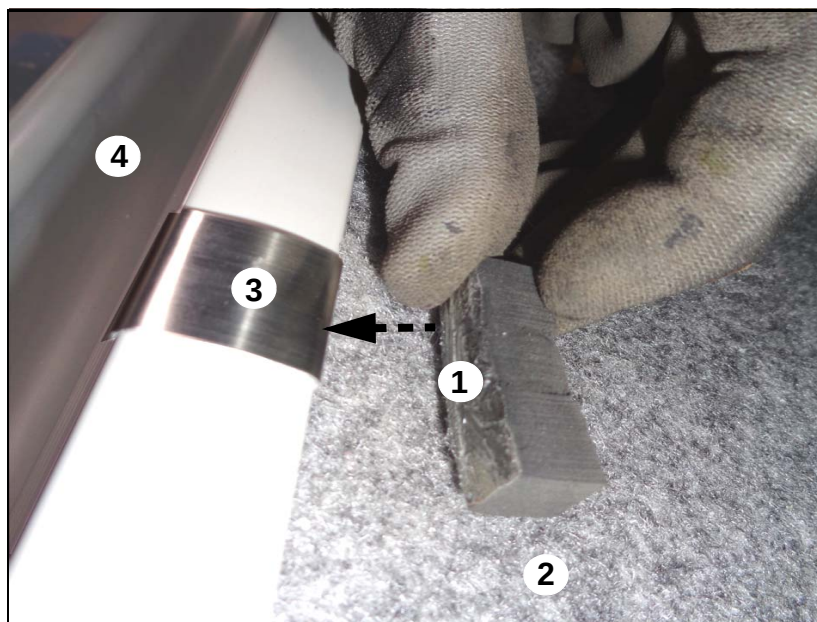

**Figure 7.**
10. Using a 50 / 50 mixture of alcohol and water, clean the installation area under the lower, latch catch plate shown in Figure 7.
11. Locate and remove the protective film covering the adhesive surface of the noise isolator foam, p/n 03-08-5605. Orient and push to affix the noise isolator foam under the lower latch catch plate shown in Figure 7.
| Item | Figure 7 Description                        |